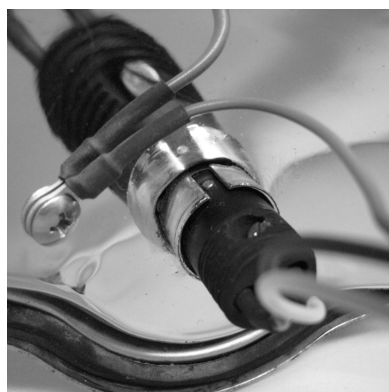

Figure 5
3. Using the sheet metal screw, pass the screw through the ring terminal on the green wire of the Bayonet Cable Assembly. Then proceed to put the screw's tip into the drilled hole and tighten the screw snugly against the reflector plate. Then install the Bayonet adaptor into the bulb socket with the brass pin into the upper socket slot, as shown in Figure 5. Firmly push in the adaptor and twist to lock into position.